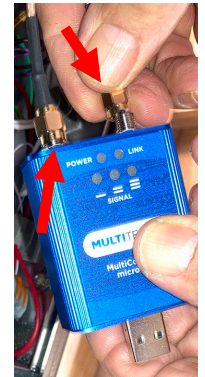

Figure 37
34. Securely attach both antenna extension wires to the modem (see Figure 37).